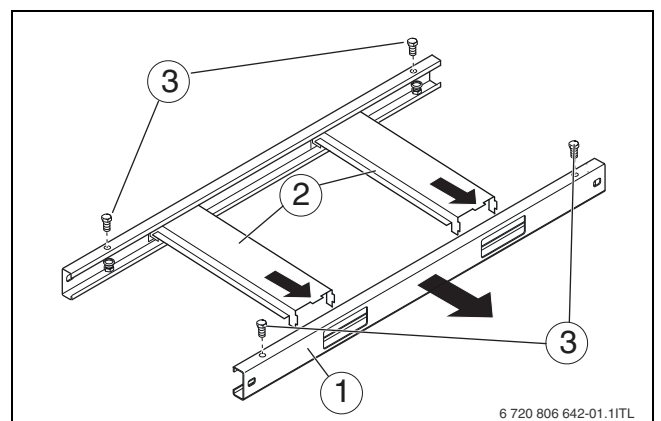

Fig. 11 Removing the base frame
The transport height can be reduced by removing the base frame rails (→ fig. 11, [1]) with the cross beams.
- ▶ Disassemble the base frame as shown in fig. 11.